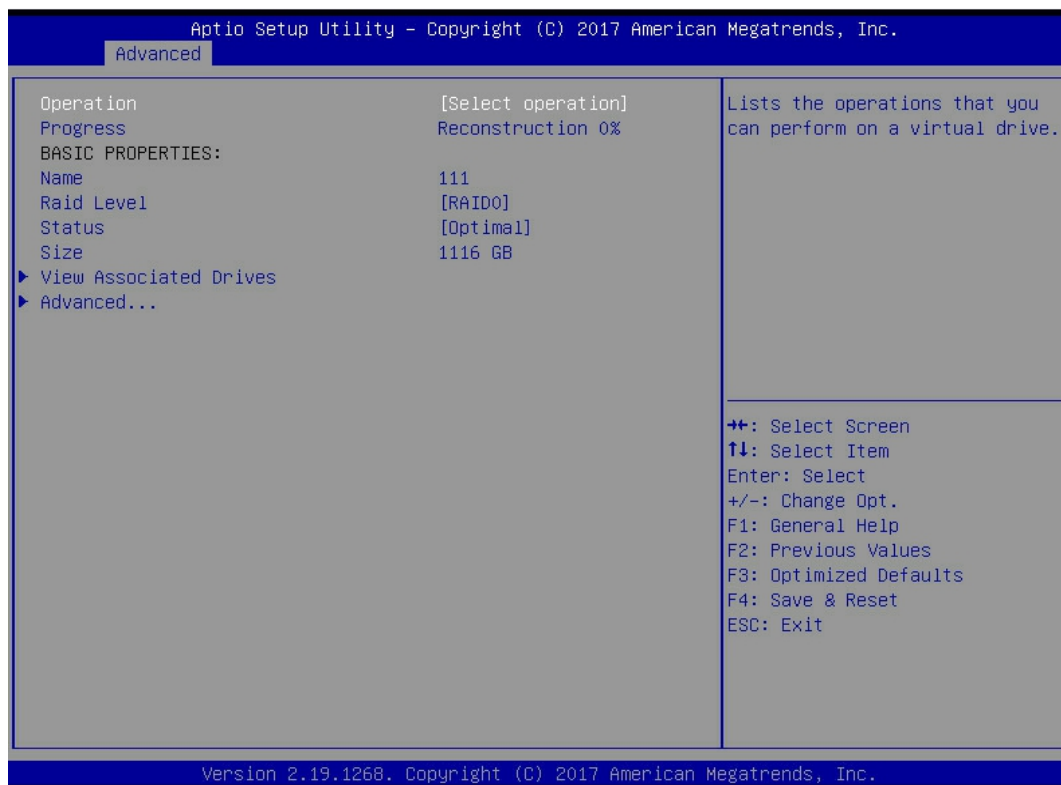

Figure 6-100
j) Enter the interface shown in figure 6-100 to view the current migration progress.
✧ Figure 6-100 raid information interface